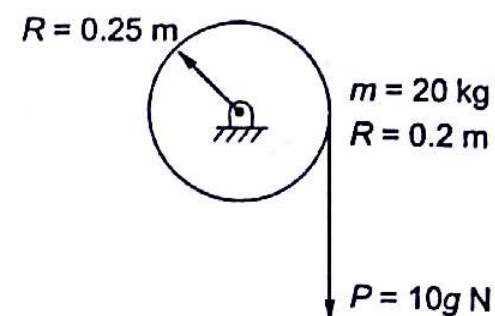

Fig. 18.20
- 18.5 A pulley of mass 20 kg and radius 0.25 m start from rest. A force of $10g$ N is applied at the end of the string. If $k = 0.2$ m for pulley, what is angular acceleration of the pulley (Fig. 18.20)?